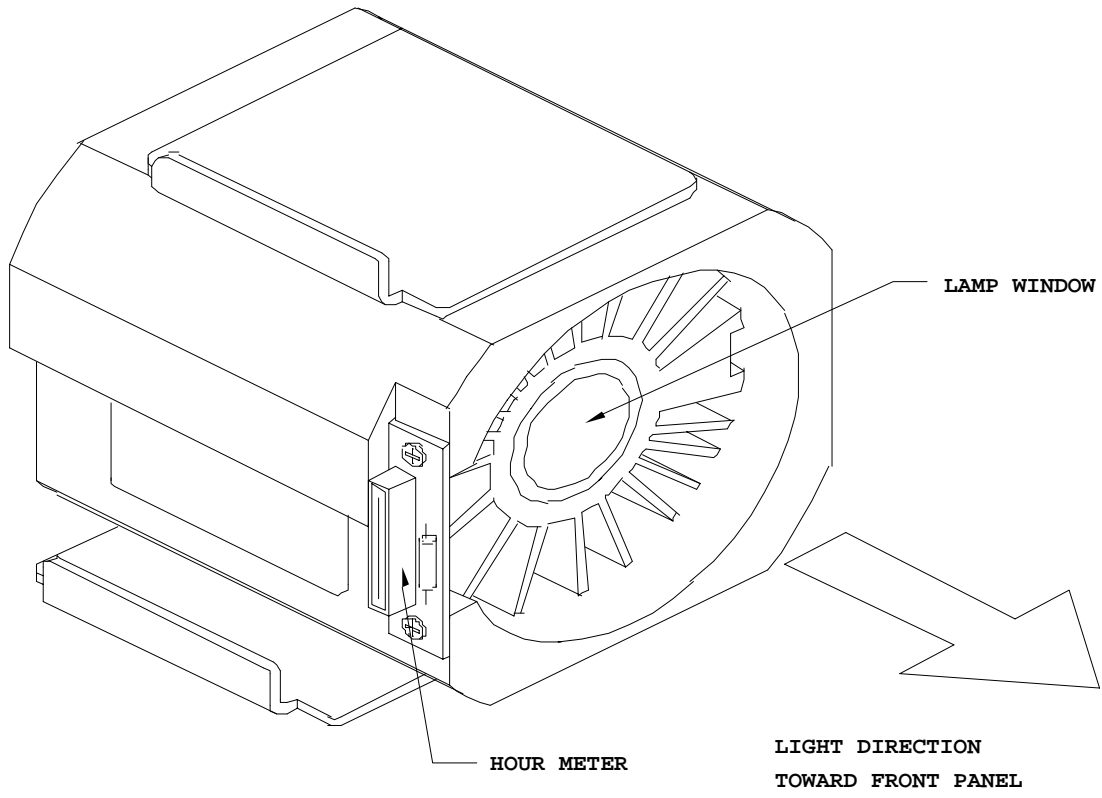

Fig 1
5. To install new Lamp Holder, align new Lamp Holder receptacles with mating pins on the Housing Bracket (inside unit) and push horizontally to engage (see Figures 1 & 2). Install with lamp window facing front panel.